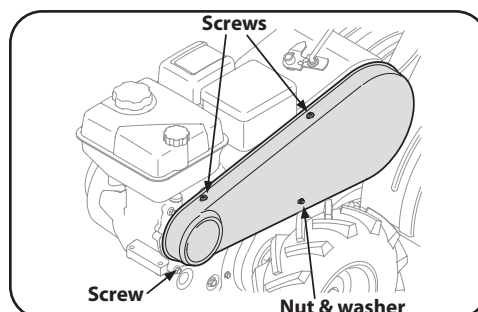

Figure 4-2
2. Remove the belt cover from the left side of the tiller by removing the two screws from the top of the belt cover. See Figure 4-2.